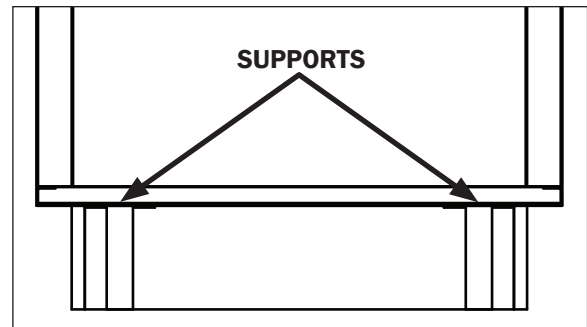

Fig. 1 Vertical supports
5. Locate vertical support (Fig. 1) positions along the chalk line. Spot properly leveled shim packs at each support location.